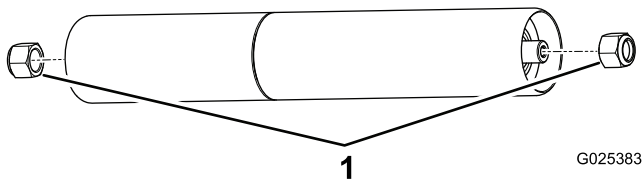

Figure 2
- Remove the nuts from the ends of each roller assembly (Figure 2).